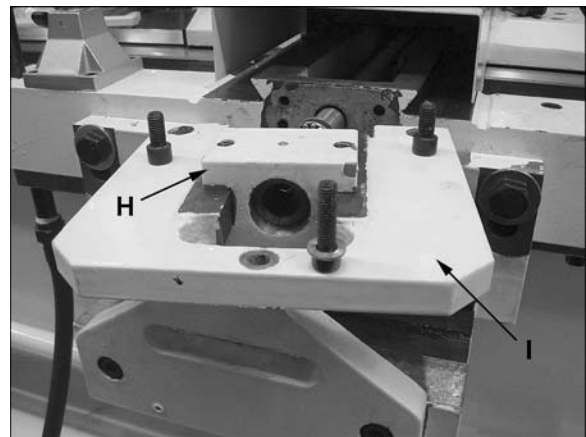

Figure 4
9. Center feed block (H) onto leadscrew, and install positioning plate (I). Fasten positioning plate to main body with three socket head cap screws. (The longer screw installs at back edge of plate – see Figure 4.)